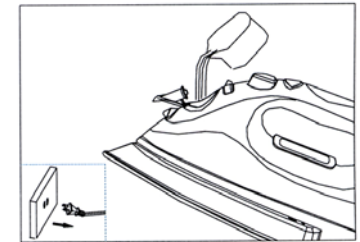

Fig. 1
1. Open the water filling inlet cover. Holding the iron at a slight angle, pour water slowly into the water filling inlet. (Fig. 1) Fill tank to the desired level or to the "MAX" water level marking using the water filling flask. (When the iron is upright, the see-through water tank allows you to gauge the amount of water.) **DO NOT** overfill the tank. When finished filling the iron with water, close the water inlet cover before continuing.